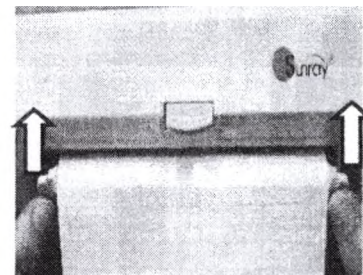

Fig.5-3
- 4) Close the recorder cover, as shown on Fig.5-3